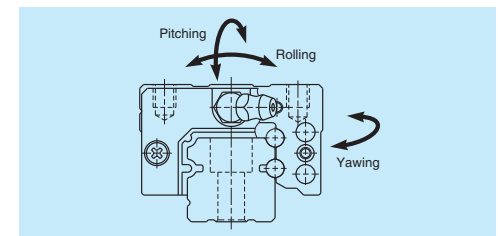

Fig. 3.5 Moment rigidity
- (2) Moment rigidity: Three moment directions, pitching, rolling, and yawing (**Fig. 3.5**).